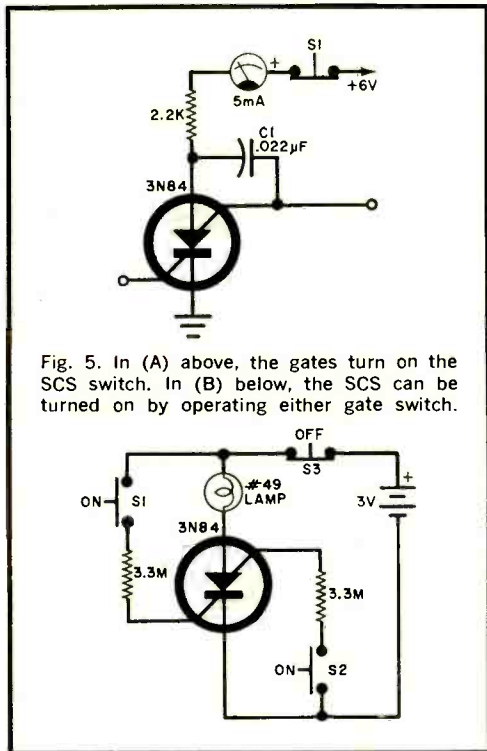

Fig. 5. In (A) above, the gates turn on the SCS switch. In (B) below, the SCS can be turned on by operating either gate switch.
Simple Switching. Now that we have a good concept of what is inside an SCS and how it works regeneratively, let's study its switching properties. To see how sensitive the SCS is to turn-on at its cathode gate, build the circuit shown at (A) in Fig. 5. With the 6-volt supply switched on, note that the meter reads zero. The SCS is in its off state. Actually, a small current does flow in this condition, but it is only a few microamperes and does not indicate on the meter. For most practical purposes, we can assume that the off current of the SCS is zero.
So sensitive is the SCS to turn-on that even a mild switching transient can accomplish it. In the circuit of Fig. 5(A), the transient response is subdued by capacitor $C1$. To prove this, with the power supply on but with the SCS in its off state, press and release $S1$ several times and note that the meter needle remains at zero. Now do the same with capacitor $C1$ removed from the circuit. Note that the meter needle promptly swings up to about mid-scale, indicating that even the transient produced by switching the power supply off and on is sufficient to turn on the SCS. The only way to keep it off is to open the switch.
problem. In the circuit of Fig. 5(B), for example, where about 40 mA is pulled through the 3N84, shorting the cathode gate to the cathode or the anode gate to the anode will not turn it off. On the other hand, opening the power supply circuit is always effective.
The circuit of Fig. 5(B) can be turned on by closing either *S1* or *S2* momentarily. Very little gate current (only a